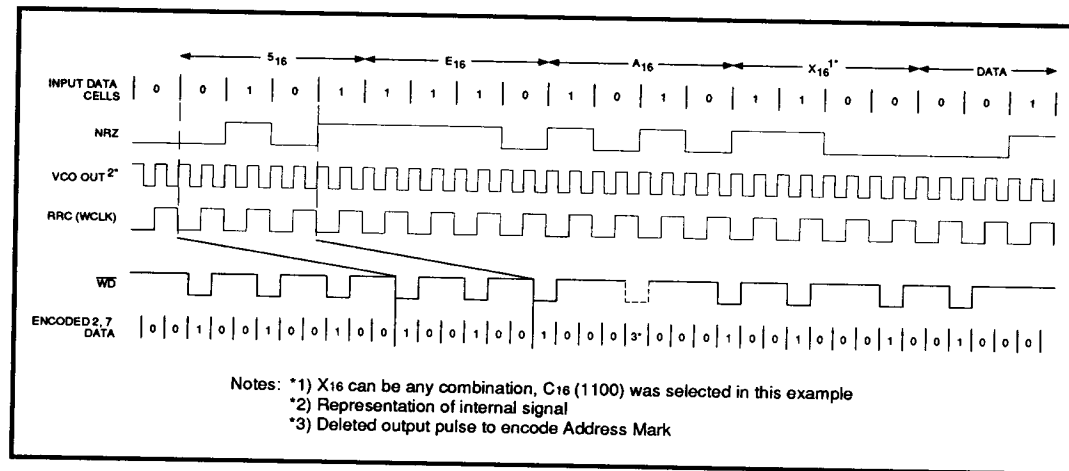

FIGURE 8: Write Address Mark Generation
In the Soft Sector Mode, when WRITE GATE (WG), transitions high and the NRZ input is held low, the SSI 32D535 automatically generates the 3T (100) Preamble Field at the WRITE DATA (\overline{WD}), output. The 3T Preamble Field will continue to be generated until the first low to high transition on the NRZ line. As shown in Figure 8, the first low to high transition occurs with the second bit '1' of the 5₁₆ (0101) in the 5EAX₁₆ Address Mark generation pattern. To generate the Address Mark, the SSI 32D535 automatically changes the '1' in the eleventh position (see note 3) of the 2, 7 RLL encoded sequence, to a '0'. This generates a pattern of seven zeros followed by two zeros. This unique pattern satisfies the 2, 7 RLL constraints, but will never occur during a normal encoding sequence. The x₁₆ of the 5EAX₁₆ Address Mark generation pattern can be selected, a 'C₁₆' (1100) was utilized in this example.